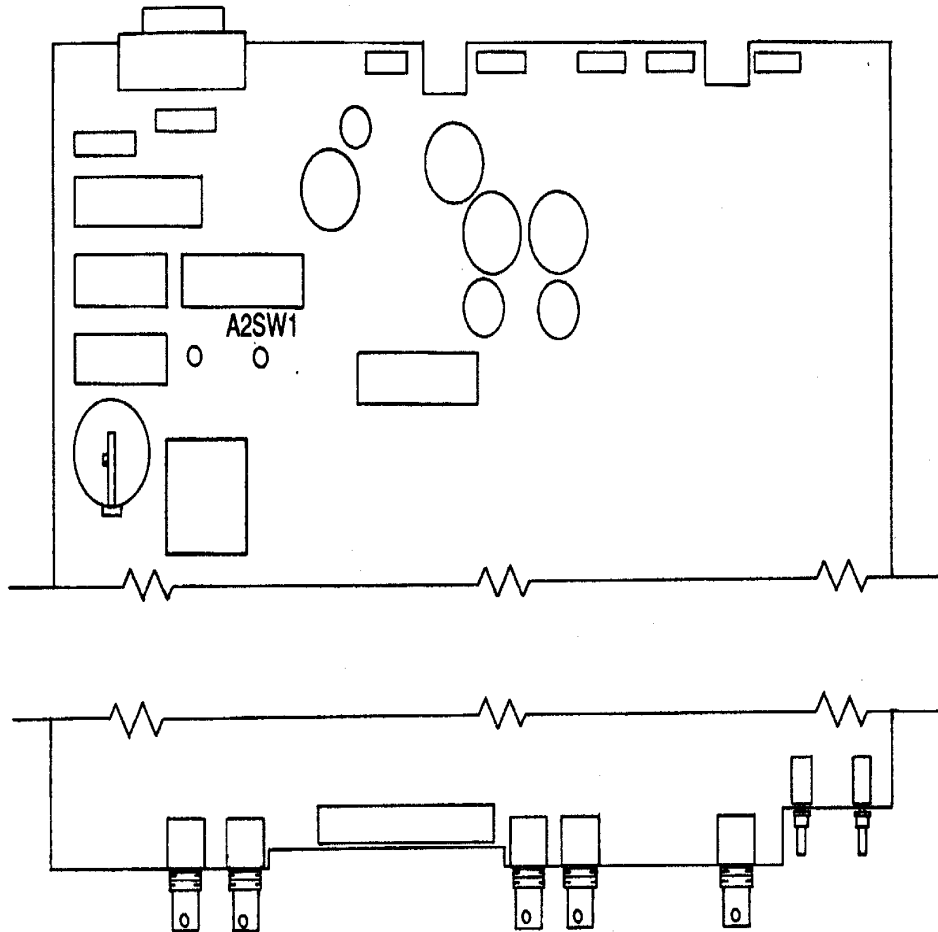
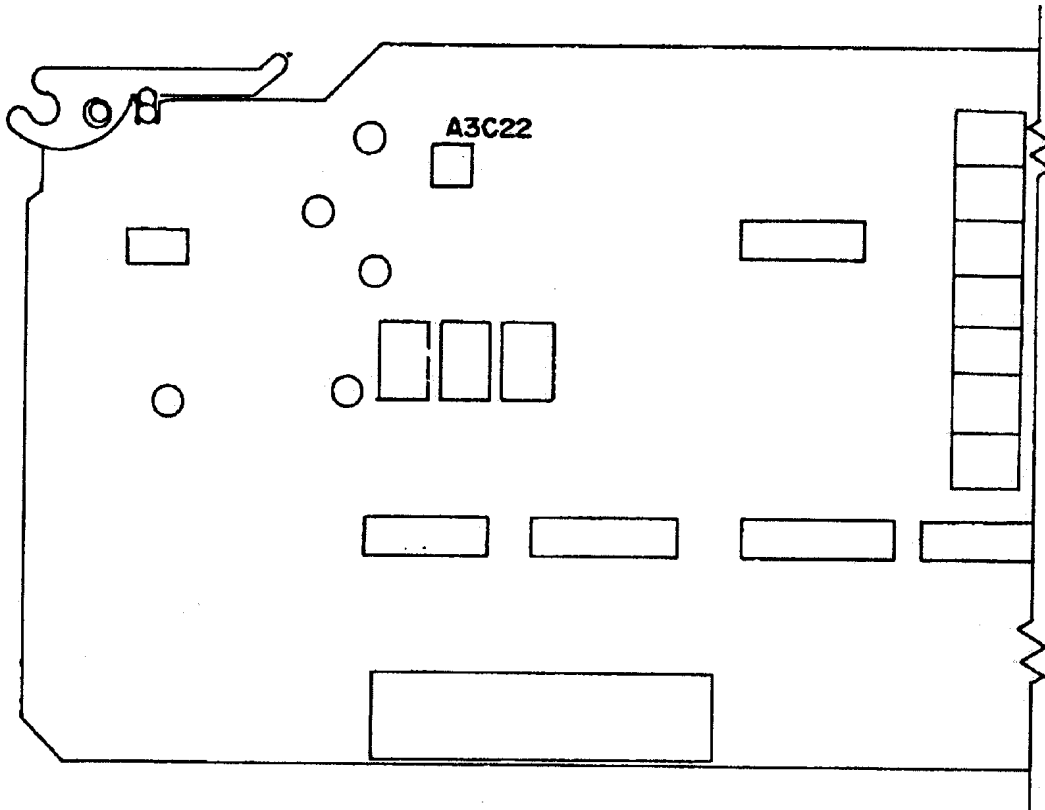

Figure 2. A2 motherboard.
Figure 3. A3 output circuit card adjustment location.
- (3) Set **POWER** switch to **ON**.
- (4) Press and hold (down) A2SW1 (fig. 2) and then press **CALIBRATE** pushbutton.
- (5) Observe display indication of **WVTK SN X, XXX, XXX** or **WVTK SN 0**.
- (6) Press **CURSOR** \uparrow pushbutton and allow enough time for calibrating mode to complete.
- (7) Observe display indication of **ARMY SN X, XXX** or **ARMY SN 0**.
- (8) Repeat (6) above observing display indication of **PEAKING C22**.
- (9) Connect **UNBALANCED** output to oscilloscope input, using cable and a 50Ω feedthrough termination.
- (10) Adjust A3C22 (fig. 3) for a peak-to-peak aberration of less than 270 mV displayed on oscilloscope (R).
- (11) Press **CALIBRATE** pushbutton and verify display indicates **CALIBRATION OFF**.
- (12) Disconnect equipment setup and reinstall top cover.
(3) Position **POWER** switch to **ON**.
(4) Press and hold (down) A2SW1 (fig. 2) and then press **CALIBRATE** pushbutton.
(5) Press **CURSOR**  pushbutton three times and observe display indication of **R33, 97, 64, VSINE XXX**.